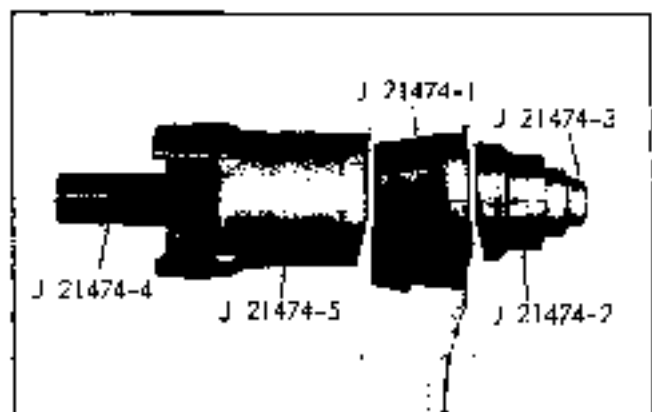

Fig. 4-6 Installing Upper Control Arm Rear Bushing - Pontiac and Tempest
3. Install new bushing in axle housing by arranging tools as shown in Fig. 4-6 and press into place. Use care to keep bushing properly aligned. Lightly lubricate bushing to increase ease of installation.